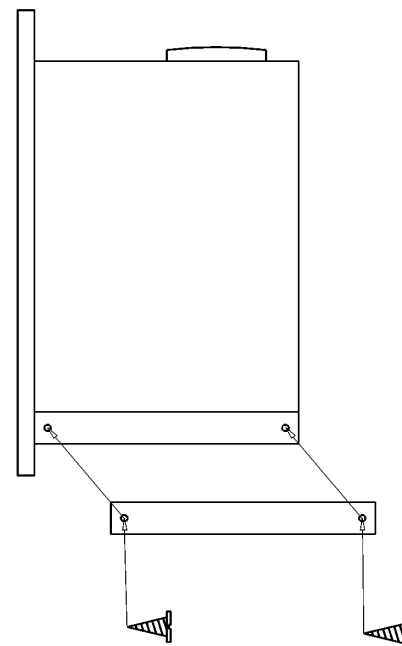

Fig. 1
- Assemble the runners on the sides of the machine (using the screws supplied) as shown in fig.1.